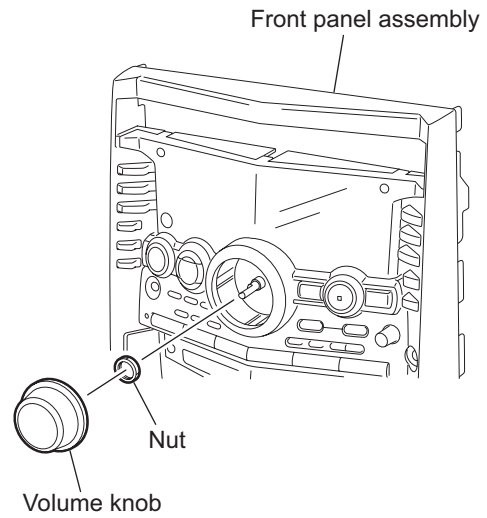

Fig.37
3.2.4 Removing the volume board (See Fig.37,38)